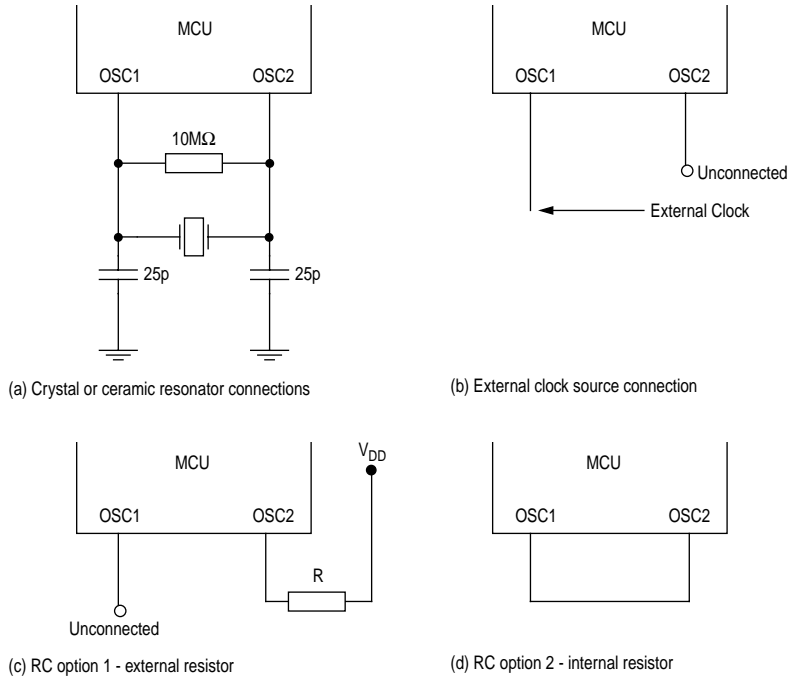

Figure 2-1 Oscillator Connections
- 1) A crystal or ceramic resonator as shown in Figure 2-1(a).
- 2) An external clock signal as shown in Figure 2-1(b).
- 3) RC options as shown in Figure 2-1(c) and Figure 2-1(d).
The circuit in Figure 2-1(a) shows a typical oscillator circuit for an AT-cut, parallel resonant crystal. The crystal manufacturer's recommendations should be followed, as the crystal parameters determine the external component values required to provide maximum stability and reliable start-up. The load capacitance values used in the oscillator circuit design should include all stray capacitances. The crystal and components should be mounted as close as possible to the pins for start-up stabilization and to minimize output distortion. An external start-up resistor of approximately $10\text{M}\Omega$ is needed between OSC1 and OSC2 for the crystal type oscillator.
An external clock from another CMOS-compatible device can be connected to the OSC1 input, with the OSC2 input not connected, as shown in Figure 2-1(b).